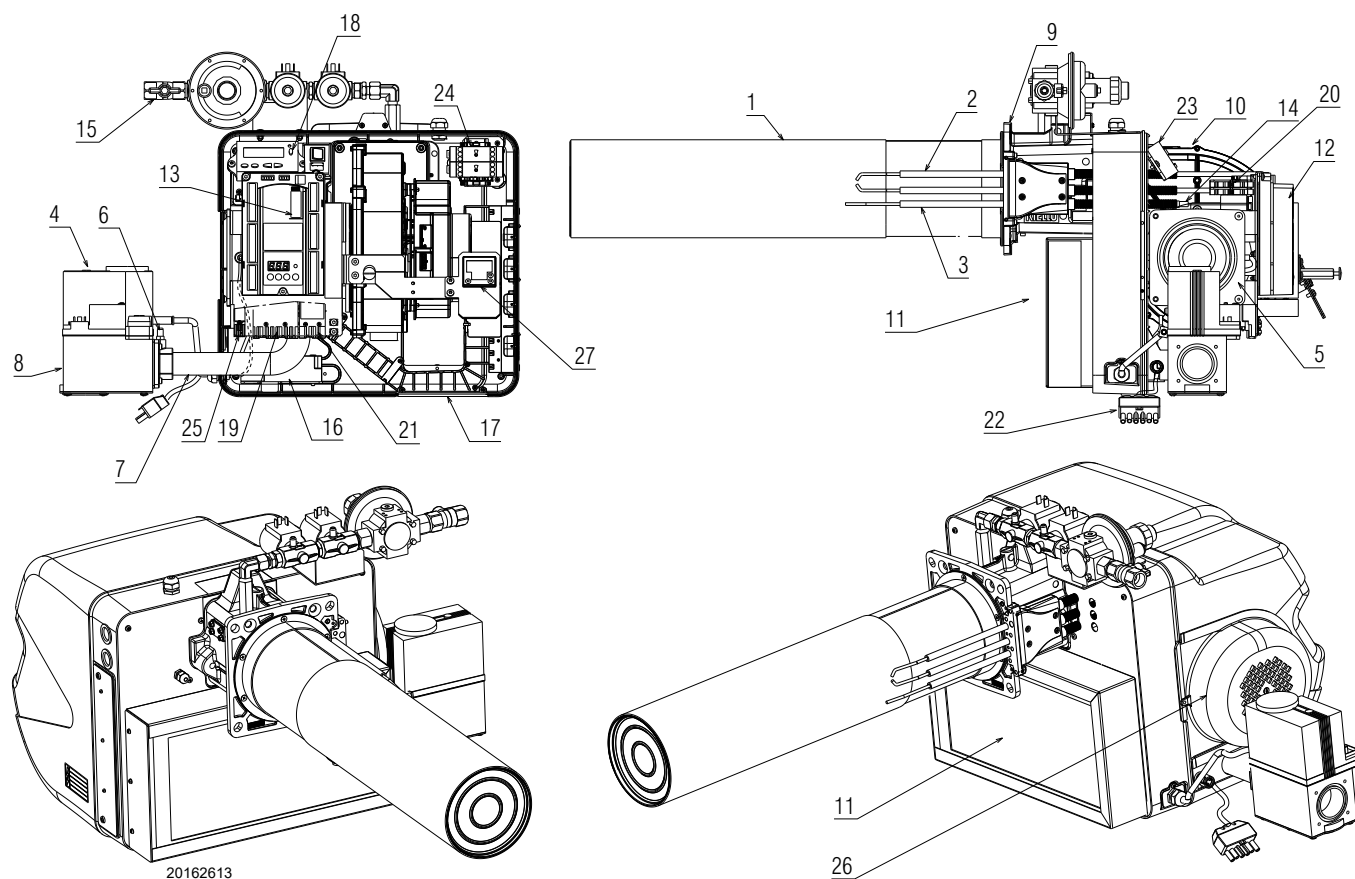

Fig. 7
- (1) Reference conditions: Ambient temperature 20°C - Gas temperature 15°C - Barometric pressure 1,013 mbar - Altitude 0 m a.s.l.
(2) Input gas pressure 8)(Fig. 7) with zero pressure in combustion chamber and at maximum burner output.
(3) Sound pressure measured in manufacturer's combustion laboratory, with burner operating on test boiler, at maximum, average and minimum modulation output. The sound power is measured with the "Free Field" method, as per EN 15036, and according to an accurate "Accuracy: Category 3" measurement, as described in EN ISO 3746.
if the control box 13)(Fig. 7) push-button lights up, it indicates that the burner is in lockout. To reset, press the push-button.